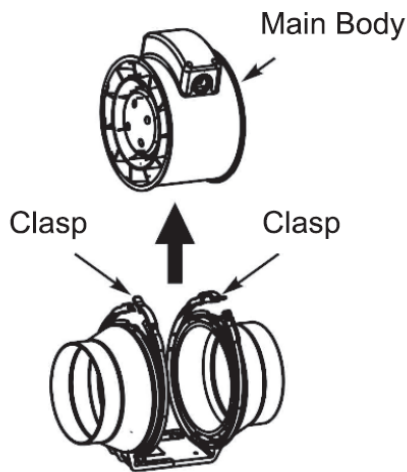

Fig. 1 – Remove main body
3. Remove the main body by unclipping the plastic clasps and lifting the main body out of the housing base. (Fig.1)